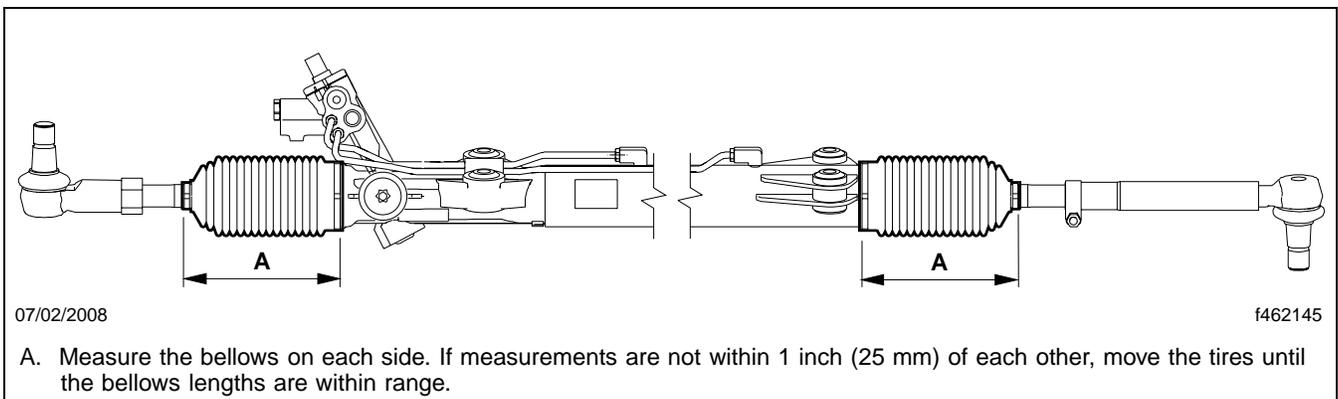

Fig. 3, Measuring the Tie Rod Bellows
- 8.1 Measure the length of the bellows from clamp to clamp on each side of the gear. See **Fig. 3**. If measurements are not within 1 inch (25 mm) of each other, move the tires until the bellows lengths are within range.